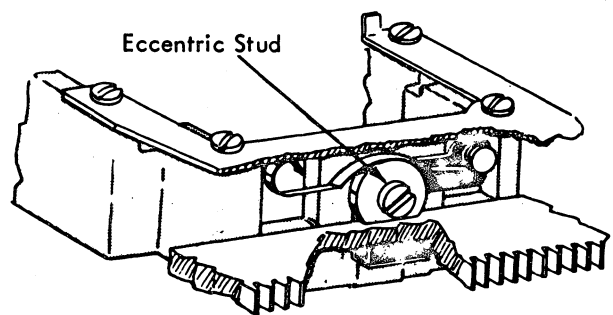

FIGURE 137. Carrier Shoe - Late
- b. **Carrier Shoe (Late)** - Adjust the upper carrier shoe eccentric mounting stud to provide .002" to .006" vertical motion of the carrier at the rear (Fig. 137) when the spring load on the upper shoe is suppressed.